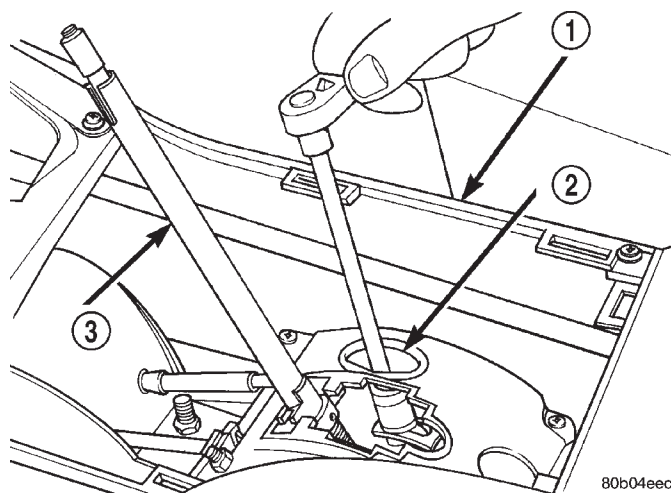

Fig. 59 Shift Cable Adjust Lever Nut
(1) Remove shifter handle and console bezel.
(2) If equipped with Autostick, disconnect the Autostick switch connector.
(3) Loosen adjuster nut on shifter adjuster (Fig. 59).